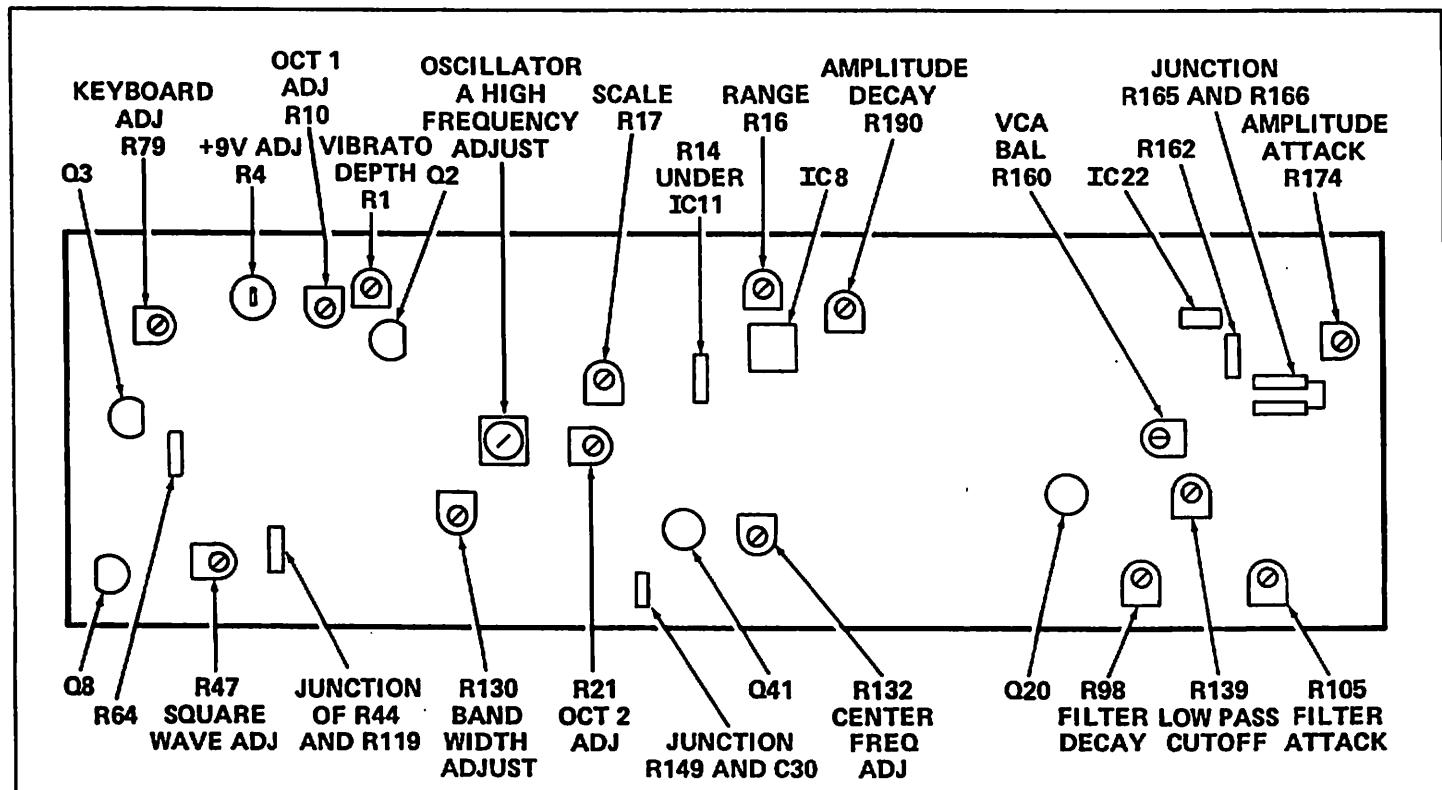
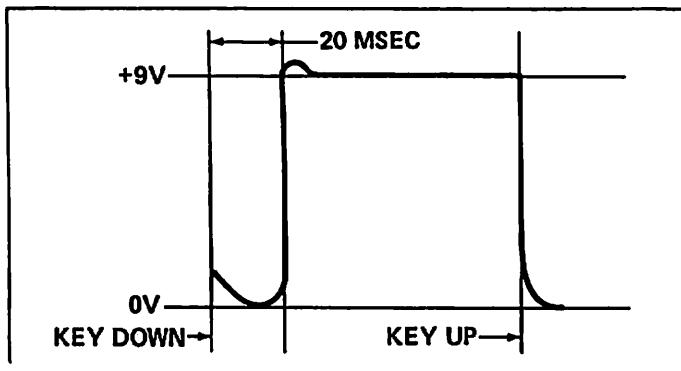

FIGURE 4-3 MAIN BOARD NO. 1 ADJUSTMENT CONTROLS AND OSCILLOSCOPE TEST POINT LOCATIONS
FIGURE 4-4 TRIGGER AT COLLECTOR OF Q8
of oscillator board No. 5 and turn +9 volt adjust trimpot R4 on main board No. 1 (Figure 4-3) until the +9 volt line is exactly +9.000 V \pm 10 mv.
b) Adjust keyboard trimpot R79 (Figure 4-3) for a voltage indication of $+9.000 \text{ V} \pm 10 \text{ mv}$.
a) Connect oscilloscope to the collector of Q8 (Figure 4-3) and verify that the trigger voltage waveform present is as shown in Figure 4-4 with a single key depressed.
a) Connect DVM to emitter of Q2 (Figure 4-3) and verify the keyboard pitch voltage ranges from $-4.50 \text{ V} \pm 100 \text{ mv}$ at the lowest key to $+4.50 \text{ V} \pm 100 \text{ mv}$ at the highest key.
b) Connect a jumper between the collector and base of Q3 (Figure 4-3) in order to keep IC10 on and thereby eliminate keyboard control voltage drift.
c) Hold down the middle B₃ key (14 semitones below topmost key) for oscillator A tuning.
d) Center the rear panel TUNE control, connect wiper to ground, place 1 OCT tab switch down and connect DVM test leads between pin 6 of IC8 (bottom of R14, Figure 4-3) and ground. Adjust range trimpot R16 for an indication of $0.0000 \pm 0.0001 \text{ V}$.
b) Hold down high B₃ key (highest black key) and zero beat oscillator A with REF frequency using scale trimpot R17 (Figure 4-3, Synthesizer $\approx 233 \text{ Hz}$, 1 octave below REF frequency).
b) Hold down the high B₃ key and zero beat oscillator A with the REF frequency using the oscillator A high frequency trimpot (Figure 4-3, tacked on to the left of R21). Repeat steps a and b several times.
b) Place 1 OCT tab switch up and zero beat oscillator A with REF frequency using octave 1 adjust trimpot R10 (Figure 4-3, Synthesizer \approx 233 Hz, 1 octave below REF frequency).
c) Place 2 OCT tab switch up and 1 OCT tab switch down and zero beat oscillator A with the REF frequency using octave 2 adjust trimpot R21 (Figure 4-3, Synthesizer \approx 466 Hz, unison with REF frequency).
a) Set range trimpot R16 (Figure 4-3) so that oscillator A zero beats with REF frequency (Synthesizer = 466 Hz, unison with REF frequency).
a) Observe waveform at junction of R44 and R119 (Figure 4-3).
4.3.3 BAND PASS FILTER RESONANCE (Q) AND CENTER FREQUENCY (F_c)
a) Observe waveform at source of Q41 (Figure 4-3) with CLARINET (REED HOLLOW, Satellite) tab switch still depressed.
b) Set VOLUME slide control all the way up and adjust low pass cutoff trimpot R139 (Figure 4-3) until the waveform at output pin 6 of IC22 (top of R162) is two volts peak-to-peak.